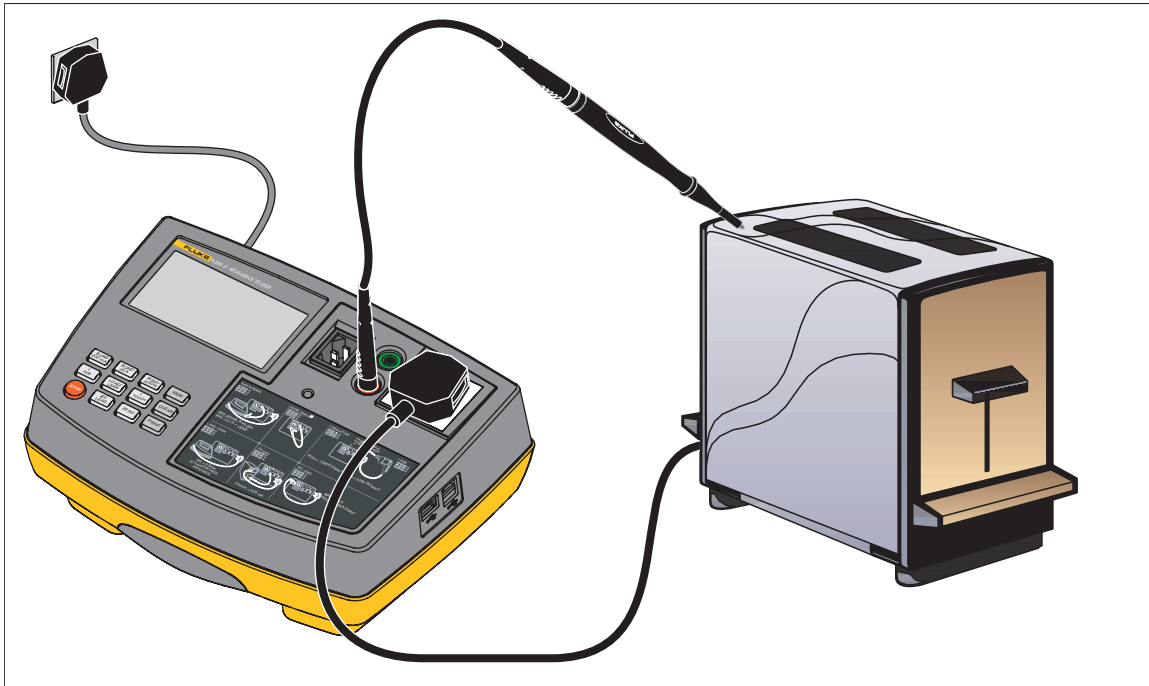

Figure 4. Touch Current Connections
1. Connect the appliance and the test probe as indicated on the Tester, see Figure 4.